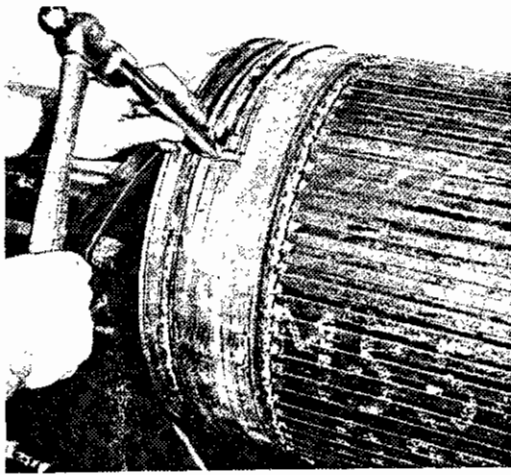

Fig. 2 - Removing Wire Bands
6. Remove the bands from the armature by using a sharp chisel and hammer. Cut through one layer of bands at a time as shown in Fig. 2. Newer assemblies will be equipped with glass bands at the commutator end instead of wire.